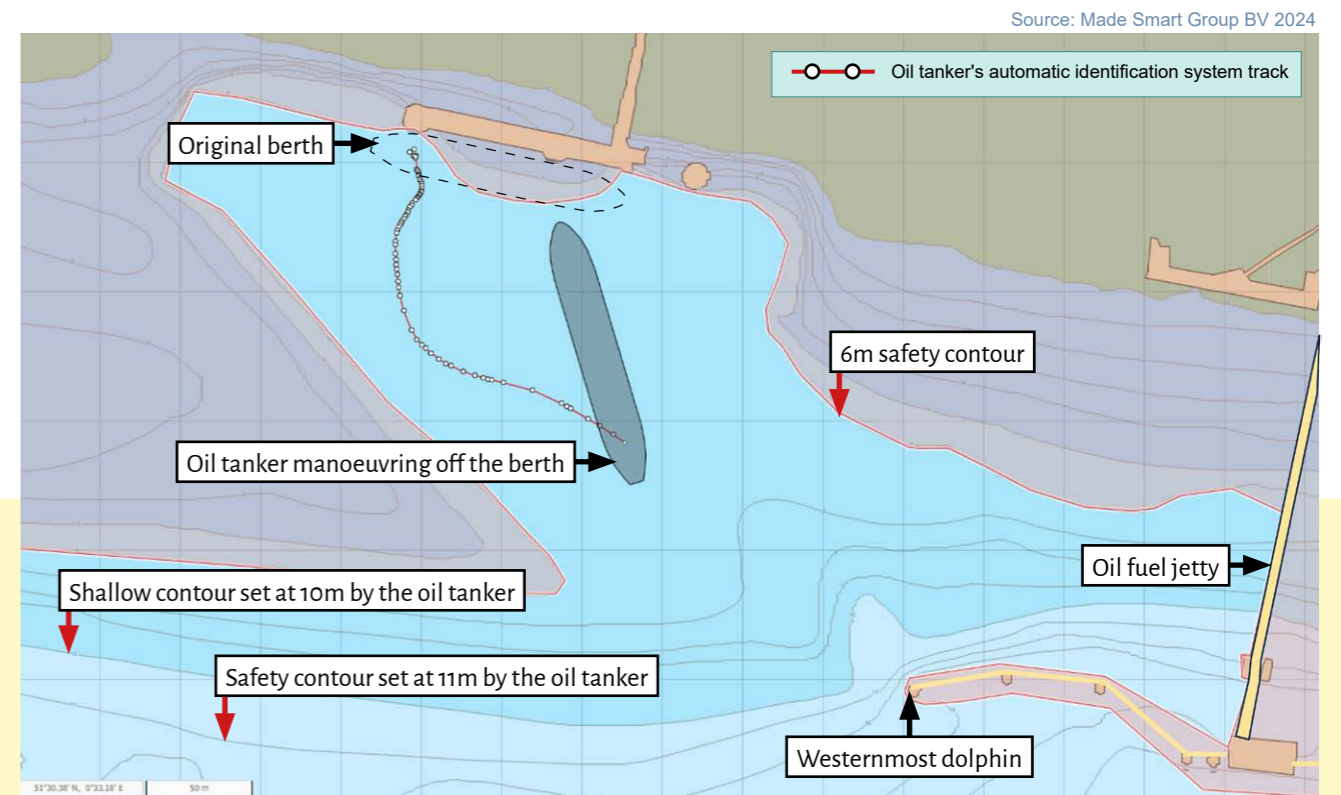

Figure 2: Safety contour used for the move
2. **Margin of safety** → The oil tanker's ECDIS safety contour was set to 11m but the vessel's proximity to shallow water and other hazards was not effectively monitored. A safety contour is used to mark the division between safe and unsafe waters and should, at a minimum, account for height of tide, vessel draught, squat, charting accuracies and the impact of weather. A safety contour setting of 6m would have complied with the company safety management system and allowed the dangerous waters to be readily identified and avoided (Figure 2). High-density ENC's are becoming increasingly available, allowing the selection of intermediate contours to give the best possible picture of safe water. The benefits afforded by these products can make all the difference when used to their full advantage.